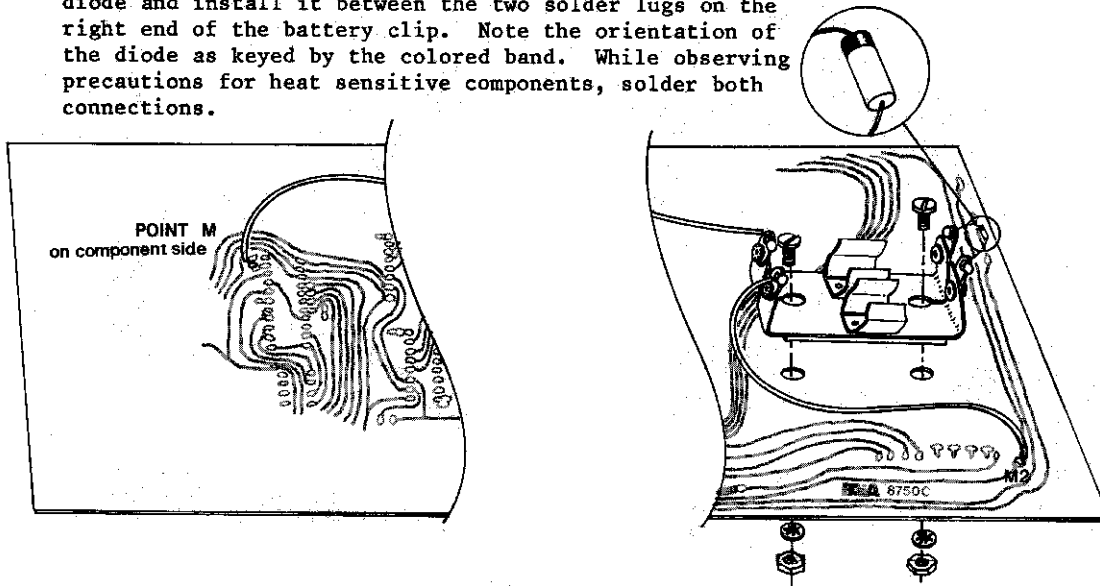

Figure 19: Battery Clip, Diode Installation, and Wiring Locations
- () Using the two 4-40 X 1/4 machine screws, two 4-40 nuts and pair of lockwashers provided, mount the battery clip as shown in figure 19. Tighten the hardware securely, but do not over-tighten.
- () In a manner similar to that described above use a 3 1/2 inch (8.9 cm) length of insulated wire to connect the lower left lug of the battery clip to pad "M2" illustrated in figure 19.